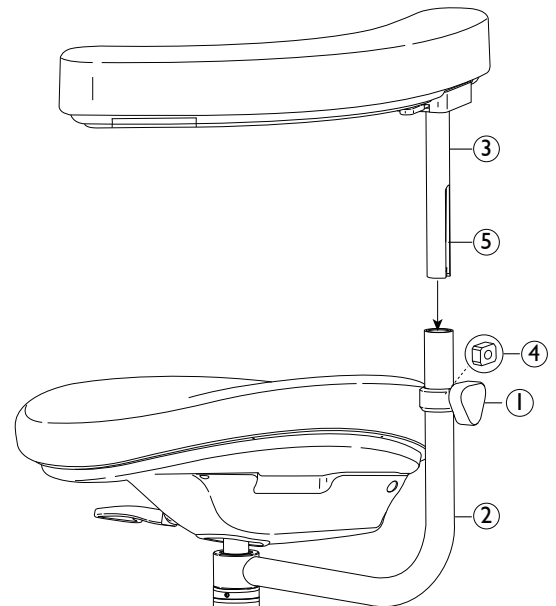

Figure 10: Installing the Torso Band
- 9** Loosen the Knob (Figure 10, item 1) on the Support Pole (Figure 10, item 2) until the bolt thread is even with the Square Nut (Figure 10, item 4) found inside the Support Pole.
- Prepare to insert the post of the Torso Band (Figure 10, item 3) into the Support Pole.
- Align the Square Nut inside the Support Pole with the Square Slot (Figure 10, item 5) of the post, and insert the post.